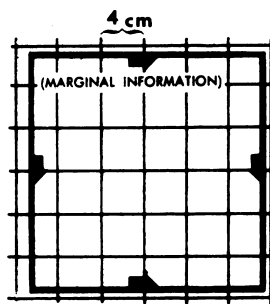

Figure 3
3. Construct the vertical grid lines exactly 4 centimeters apart perpendicular to the horizontal centerline and parallel to the vertical centerline. Consider the vertical centerline to be a grid line and step off the measurements. Extend the grid beyond the margin of the photograph so that a grid line falls outside of the image area on either side of the photo (fig. 3).